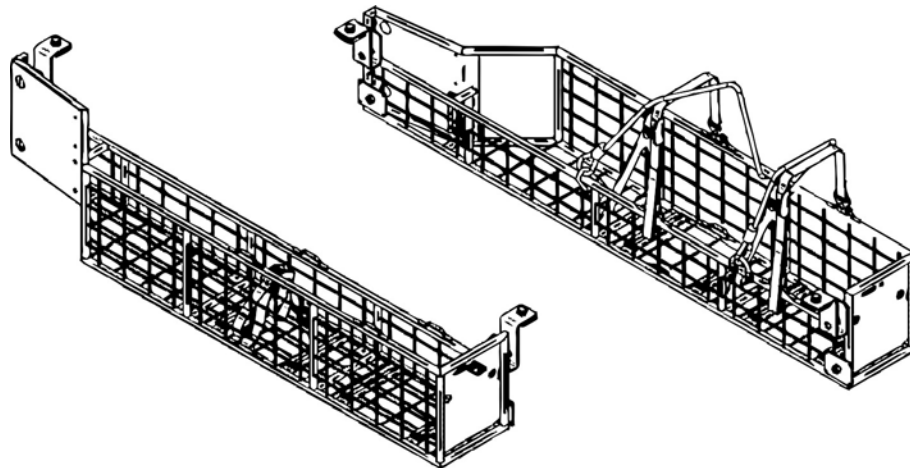

Figure 29 Side Stowage Baskets
65. **Side Stowage Baskets.** Stowage baskets (Figure 29) are fitted to the outer left and right-hand sides of the rear tray. The right side basket has brackets and straps for jerrican storage and a lockable retaining cable to secure the jerricans. The left side basket has a single strap and has a dedicated stowage area, fitted with a padlock, for securing the high-lift jack. Each basket has a maximum capacity of 60 kg.